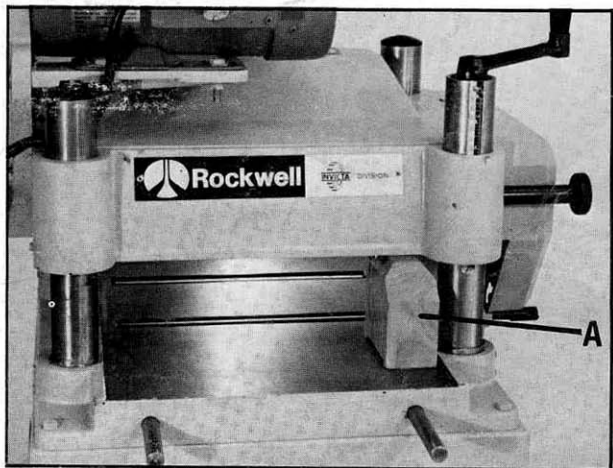

Fig. 60
3. Move gage block (A) Fig. 60, to opposite end of table, as shown. Distance from table to edge of head casting should be the same.